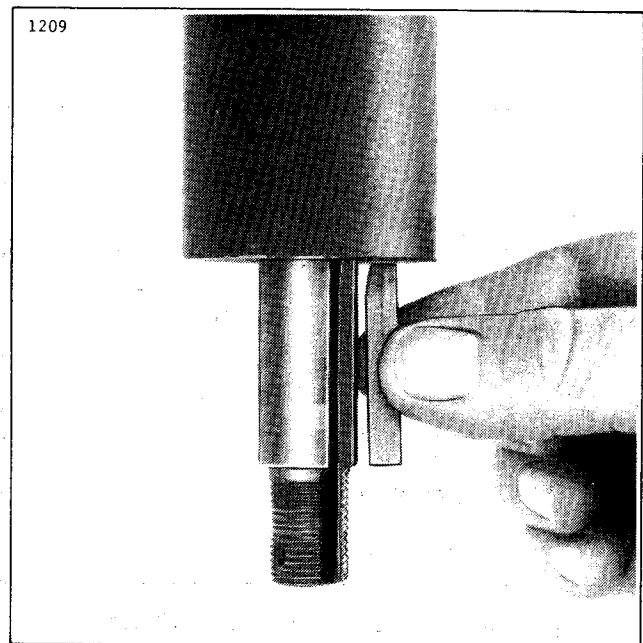

Figure 2A-12G. Axle Key Installation
3. Install snap ring (6) (Figure 2A-12D).
4. Install key (5) into slot in axle. Position key so tapered end is toward housing, and outside end of key is flush with inside edge of threads (Figure 2A-12G).
5. Install flange (4), washer (3) and nut (2).
8. Torque axle nut (2) to 50 ft.-lbs. (6.9 kgm) and continue to tighten until nearest cotter pin hole lines up. Install cotter pin (1).